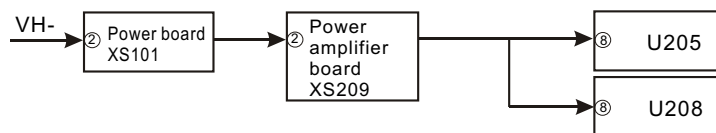

Figure 3.3.2.8 VH- power flow chart
9. +7V powerflow is shown as the following figure 3.3.2.9: